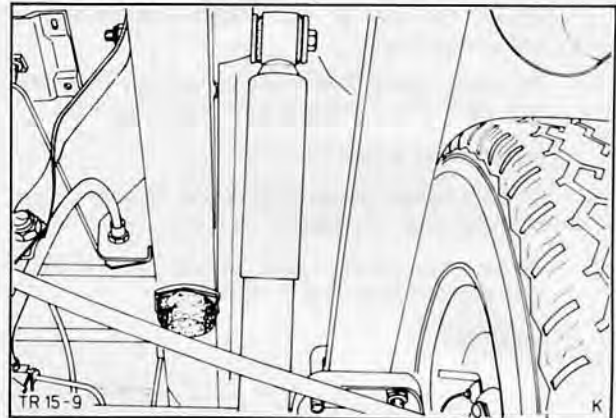

Fig. 14. Fix shock absorbers to body
11. Fix right and left shock absorbers to body, Fig. 14.